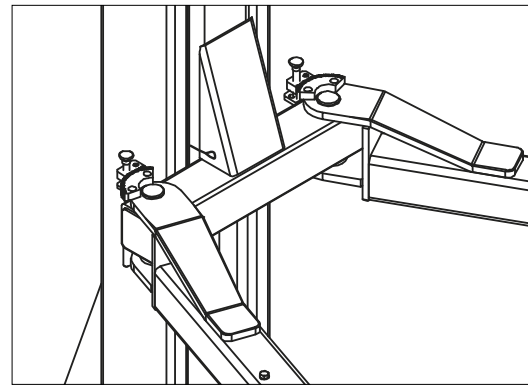

Fig. 36
- ◆ Mount the arms into the carriage supports and insert the dowel pins into the support holes as shown in **Fig. 36**. Notice the entry of both arms is the same with the entry of the vehicle.